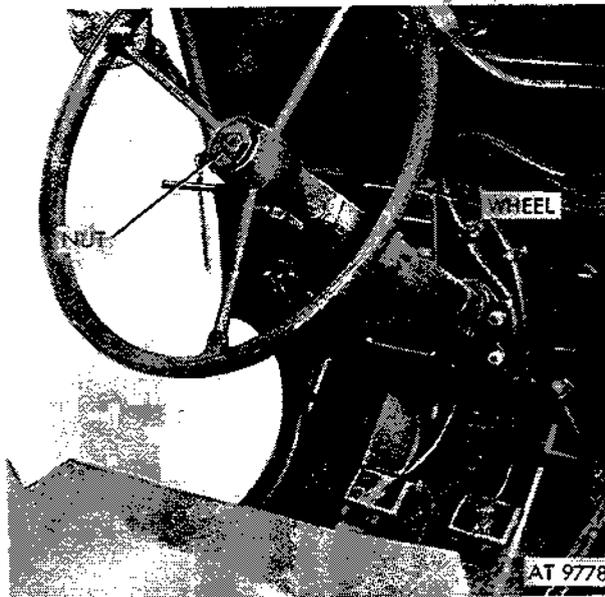

Figure 2-356. Remove steering wheel shaft nut.
(1) Remove horn switch assembly (para 2-117);
(2) Remove steering wheel shaft nut (fig. 2-356).